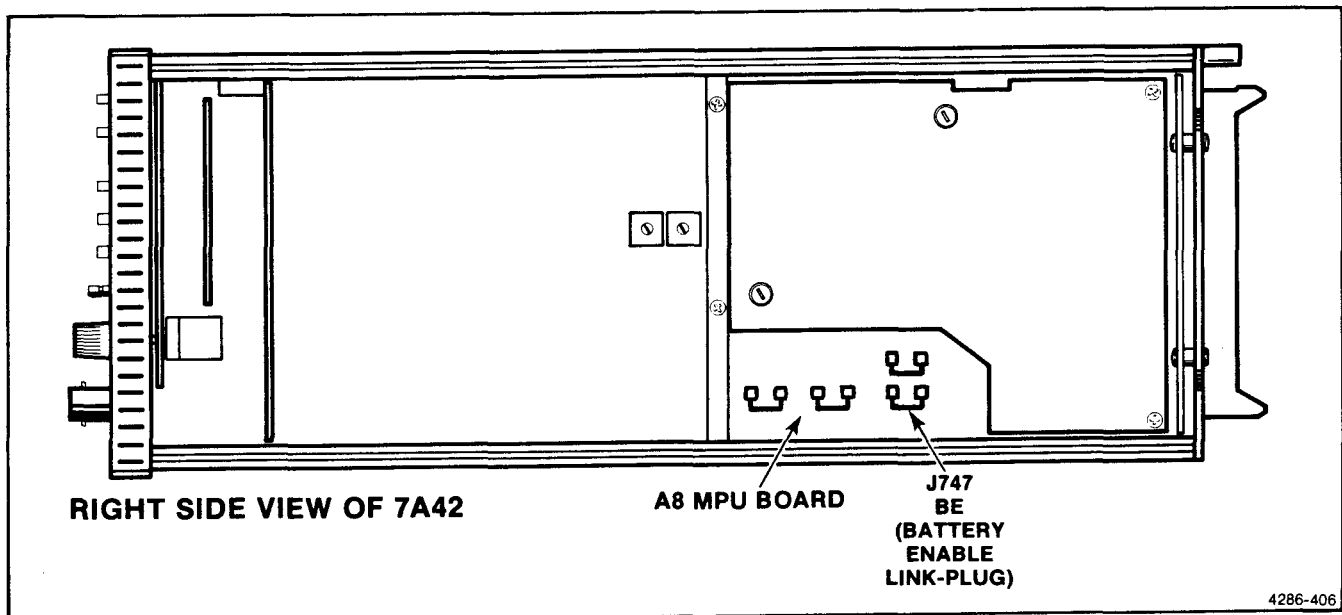

Figure 4-1. Location of the J747 Battery Enable link plug.
1. Remove the internal J747 BE (Battery Enable) link plug to disable the battery backup feature. Refer to Figure 4-1. The removal of J747 permits the front-